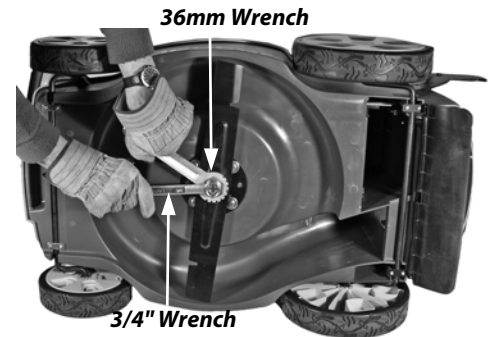

Figure 29
3. Place the 36mm Wrench over the Steel Hex Adapter (the large metal piece that holds the Blade in position) and place a 3/4" Socket or Wrench over the Blade Nut (Figure 29).
7. Place the 36mm Wrench over the Steel Hex Adapter, then place a Torque Wrench with a 3/4" Socket over the Blade Nut (Figure 29) and while holding the Hex Adapter in place, tighten the Blade Nut by turning clockwise to 16.6 Ft-Lbs. Again, be careful, hold the Hex Adapter firmly in place so that the Blade does not spin and strike your hand.